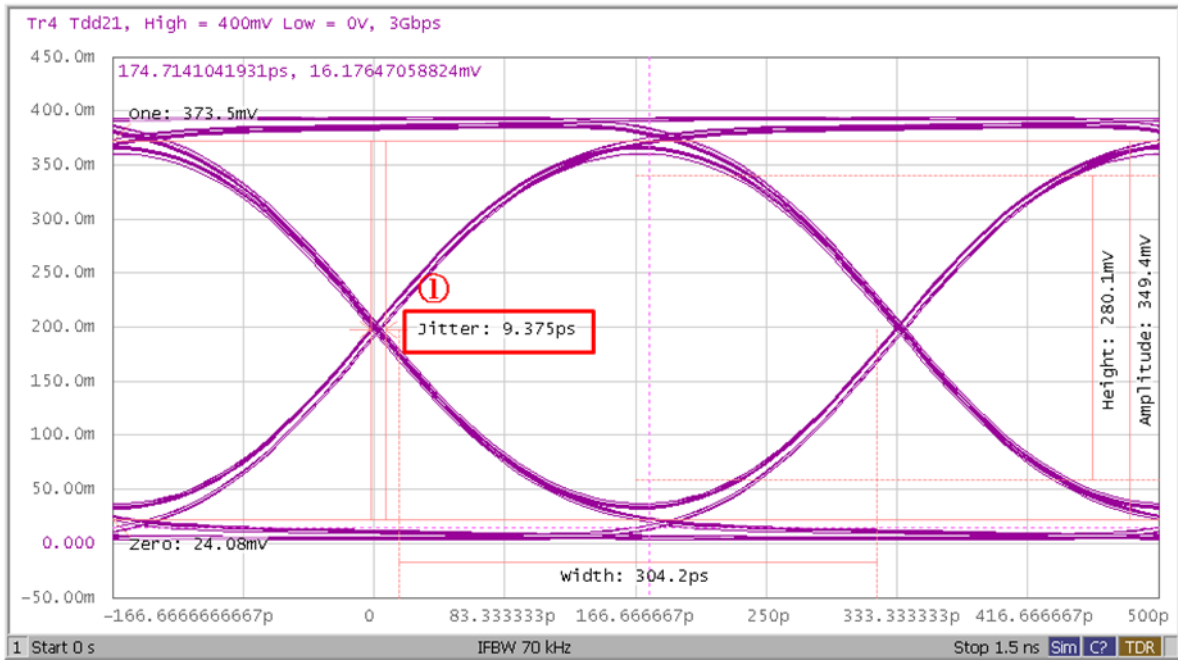

Figure 7-4: Measurement Example of SI-09
Read Jitter p-p on the eye diagram (item1 in Figure 7-4). If Jitter p-p < 50 ps, then pass. Otherwise fail.